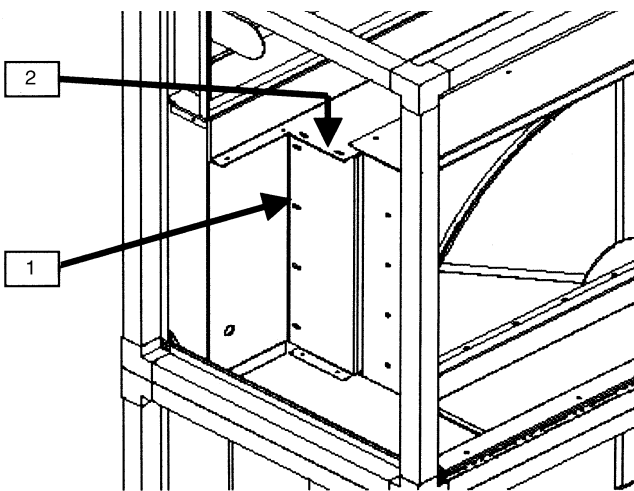

Fig. 78 — Remove Side Baffles
1. Access the wheel from the exhaust fan side. This may be easiest from the adjoining section, depending on the type of section installed. If it is necessary to access from the side of the wheel section, remove side baffle as shown in Fig. 78. This requires removing the screws (1) and (2) shown.